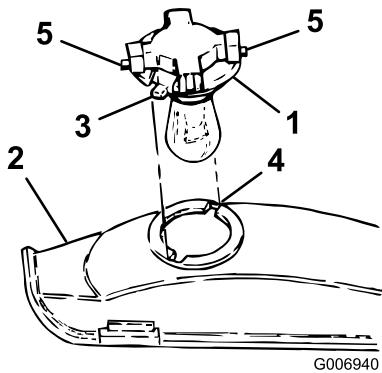

Figure 52
- Rotate the bulb holder 1/4 turn counterclockwise and remove it from the reflector (Figure 52).
4. Align the tabs on the bulb holder (Figure 52) with the slots in the reflector, insert the bulb holder into the reflector, and rotate it 1/4 turn clockwise until it stops.